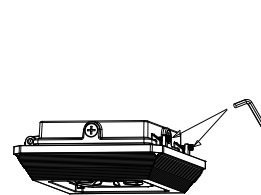

FIGURE 2-1
1. Disassemble the driver box cover by loosen the two screws on the driver box (Figure 2-1)